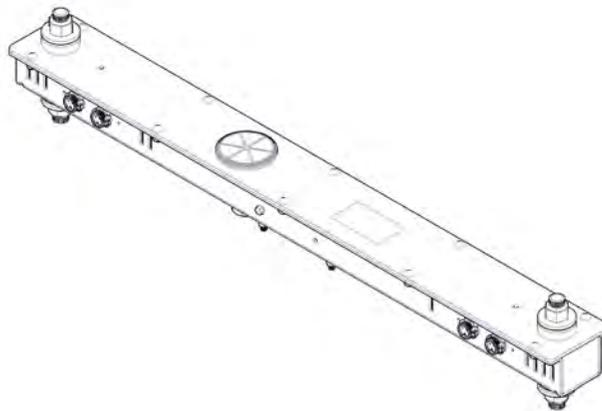

FIGURE 23
3. While supporting the light fixture, remove the nut and washer assembly fastening the main fixture Bracket and remove each light fixture and bracket (**Figure 23**).